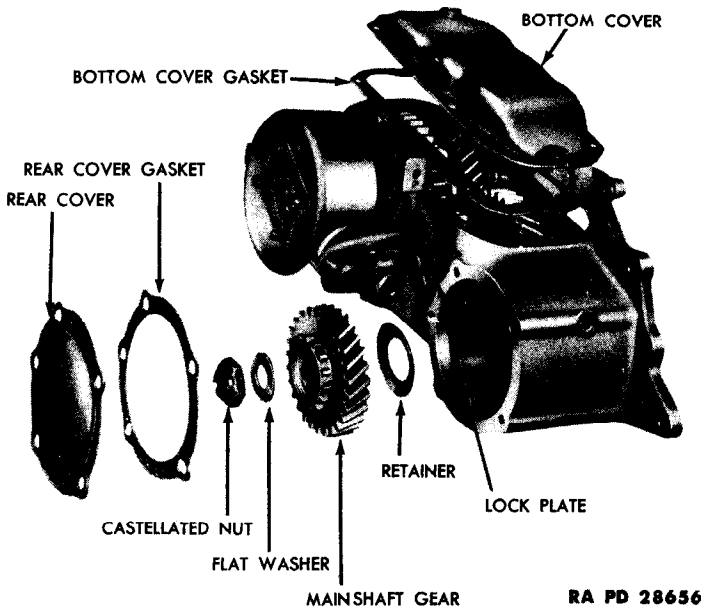

Figure 27 — Bottom Cover and Mainshaft Gear — Exploded View
e. **Remove Mainshaft Gear (fig. 27).** Through the opening at the rear of the transfer case, remove the castellated nut that secures the mainshaft gear to the transmission mainshaft. Remove the flat washer mainshaft gear and oil retainer.
(1) **TRANSFER CASE ASSEMBLY** (fig. 27). Inspect the transfer case housing for cracks or damage of any kind. Inspect the bottom and rear cover for bent or damaged condition. Replace the gaskets on the bottom and rear covers.
g. **Install Bottom Cover to Transfer Case** (fig. 27). Install a new gasket in position on the transfer case. Place the bottom cover on the transfer case. Install the cap screws that secure the bottom cover to the transfer case.
b. **Install Mainshaft Gear** (fig. 27). Insert the retainer and mainshaft gear on the transmission mainshaft. Install the flat washer and castellated nut that secure the mainshaft gear on the transmission mainshaft. Place a new gasket and the rear cover on the transfer case and install the cap screws that secure the cover to the case.